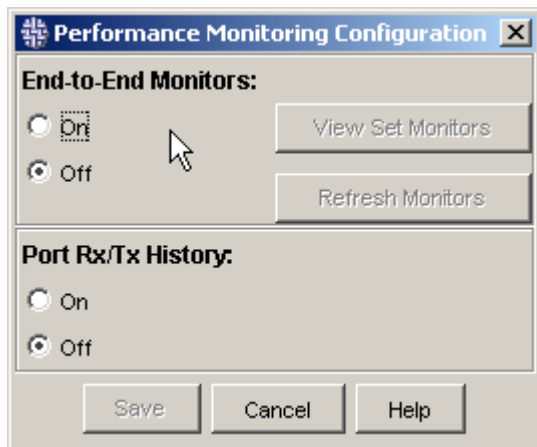

Figure 202 Performance Monitoring Configuration dialog box
The Performance Monitoring Configuration dialog box opens (see Figure 202).
6. Click **Close** to return to the Performance Monitoring Configuration dialog box (see Figure 202).
The Performance Monitoring Configuration dialog box opens (see Figure 202 on page 318).